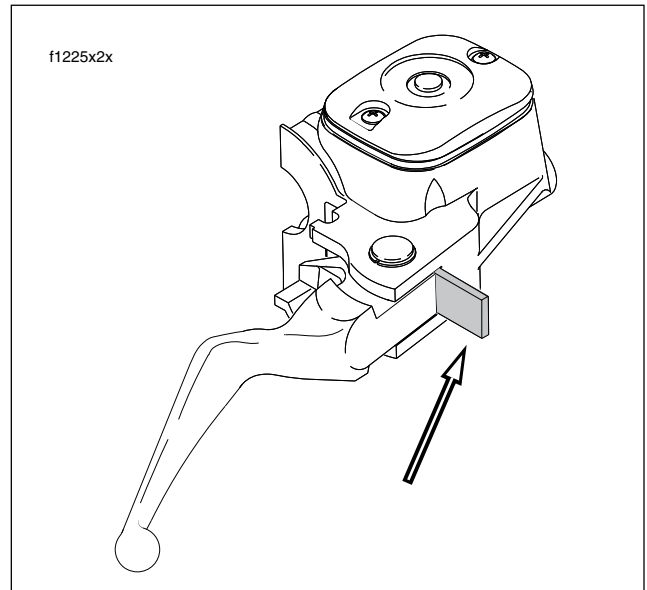

Figure 1-17. Install Cardboard Insert
1. Place the cardboard insert between the brake lever and lever bracket. See Figure 1-17.